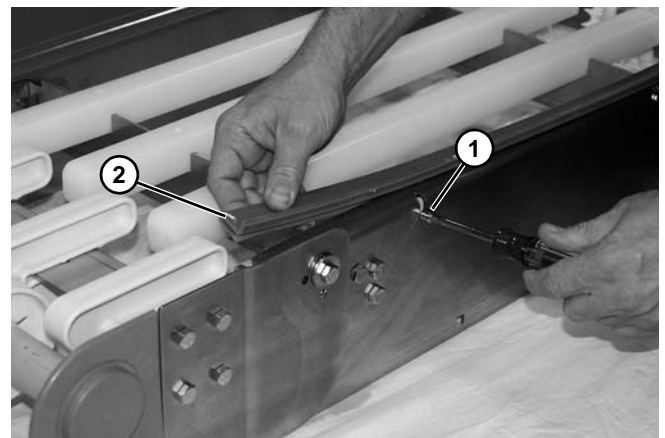

Figure 44
1. Remove two self-tapping screws (**Figure 44, item 1**) retaining the wear strip to the frame.
2. Remove the wear strip (**Figure 44, item 2**) from the frame rail.